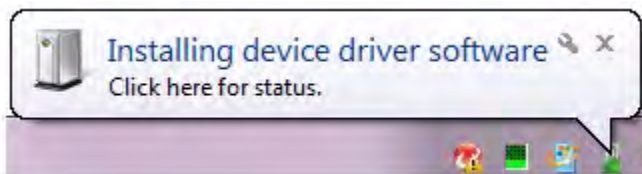
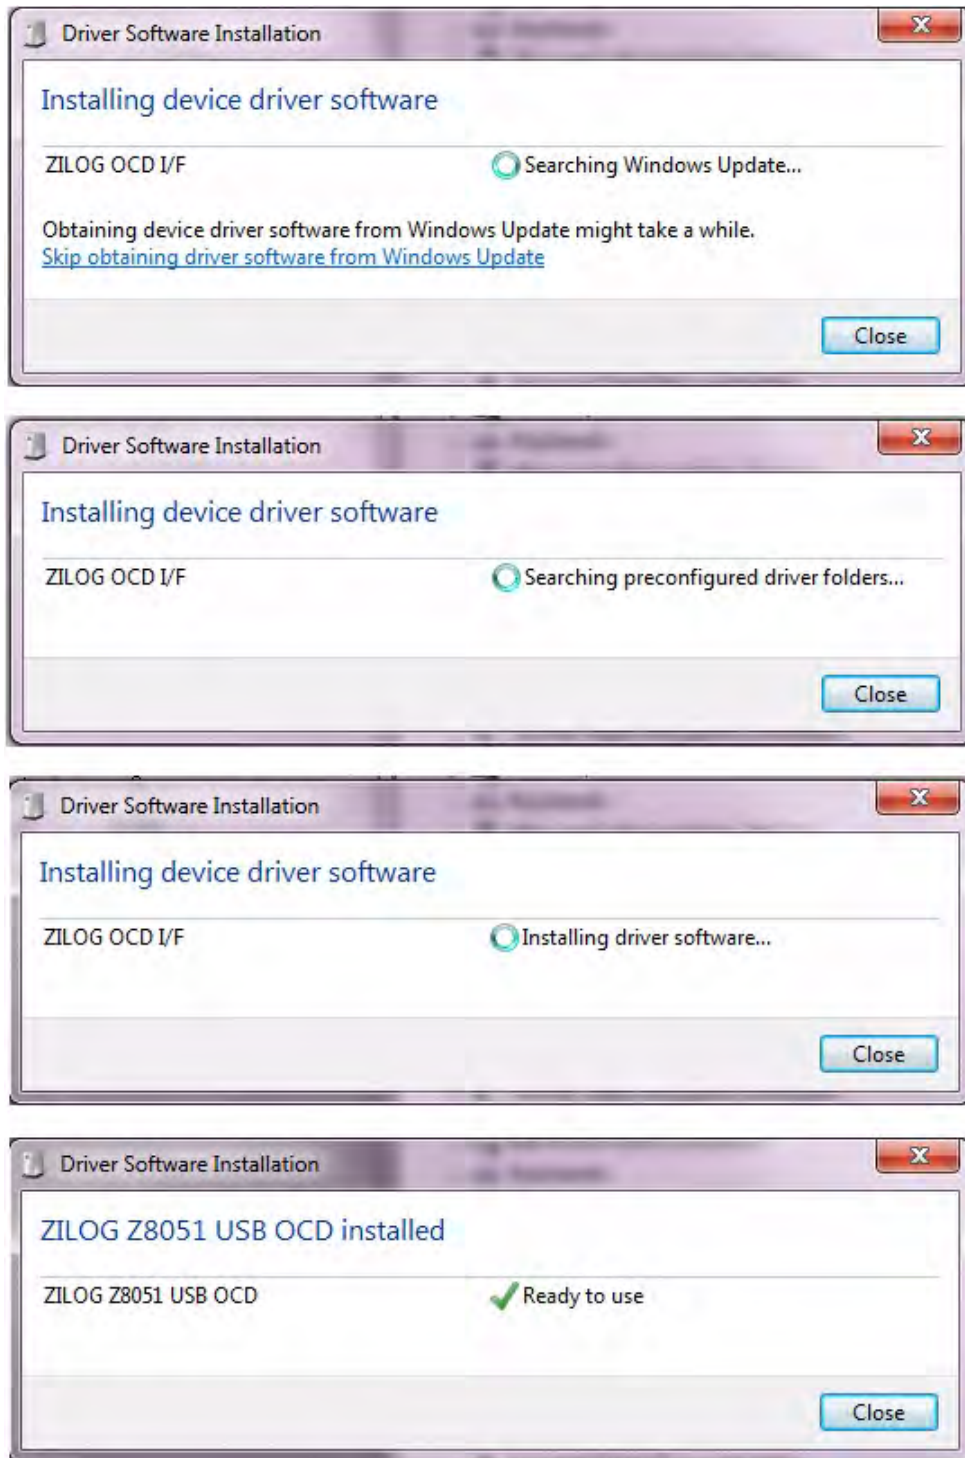

Figure 22. Install Device Driver Dialog, Windows 7
Figure 23. Driver Software Installation Dialog, Windows 7
2. After the PC detects the new hardware, it will display the *Installing device driver software* dialog shown in Figure 22. Click within this dialog to display the installation sequence of the driver software, which is diagrammed from top to bottom in Figure 23.